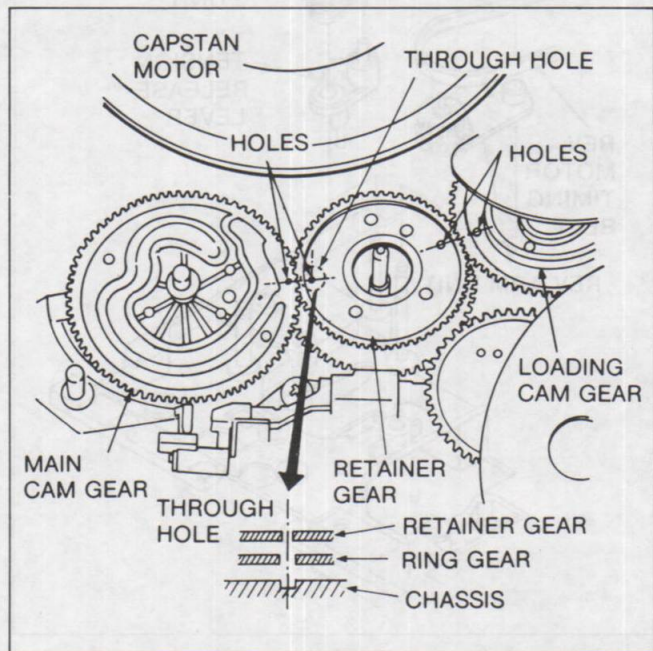

Fig. A7
2. Install the Retainer Gear on to the Ring Gear so that the hole of Retainer Gear is exactly in line with the hole of Main Cam Gear, at this time, this hole of Retainer Gear also is exactly in line with the hole of Ring Gear (underneath). At the same time, another hole of Retainer Gear is exactly in line with the hole of Loading Cam Gear as shown in Fig. A7.